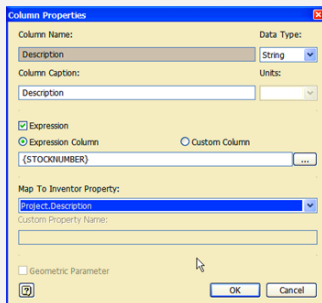

Figure 9: Column Properties for Description Column.
- Fill in the Column Name and Column Caption by typing 'Description' in both places (Fig. 9)
- Check the box next to 'Expression' and add the parameter Stock Number (Fig. 9)
- Click the down arrow button on the 'Map to Inventor Property:' and select 'Project.Description' (Fig. 9)